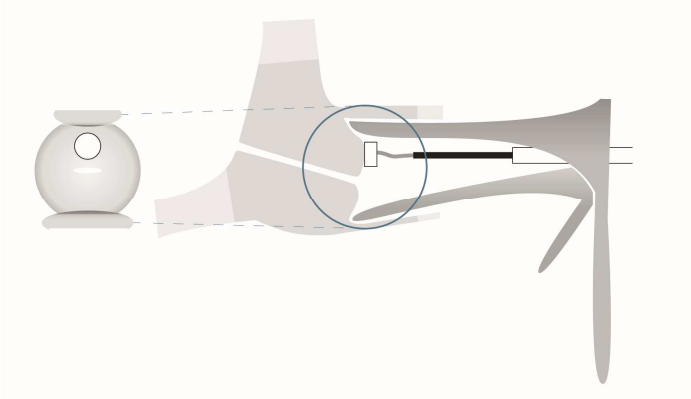

FIGURE 17: The measurement location is on the anterior lip of the cervix, at 12 o'clock position.
- 6) Evaluate if the probe can be placed on the anterior lip of the cervix at the 12 o'clock position (as shown in FIGURE 17).
- 7) Inspect the measurement location for any contraindication (**1.10 - Contraindications**). Abort the measurement if any contraindication is identified or the location is not accessible (see FIGURE 17).